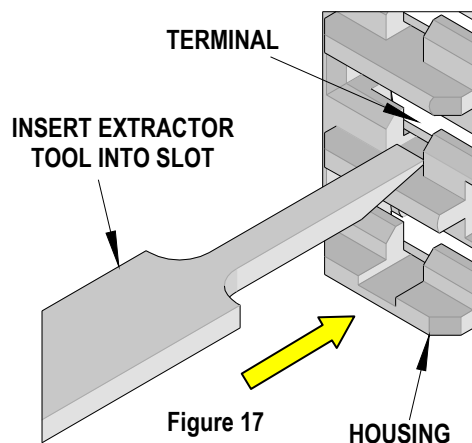

Figure 17
2. Insert the Extractor Tool into the slot below the terminal, seated in the connector housing and slide it forward until it stops. See Figure 17.